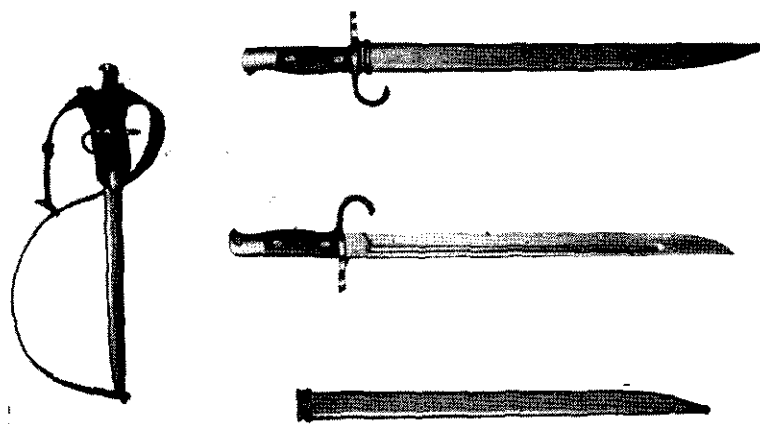
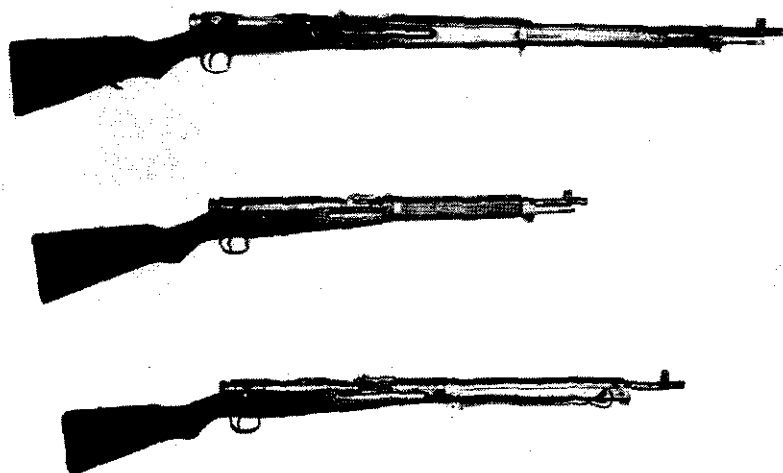

Figure 20.—Model 30 (1897) bayonet and accessories.
Figure 27.—Model 38 (1905) 6.5-mm rifle (top), Model 38 (1905) 6.5-mm carbine (center), and Model 99 (1939) 7.7-mm rifle (bottom),
similar (see fig. 27, p. 41). This carbine, like the rifle, is fitted to take the Model 30 (1897) bayonet (see **g** (1), below, and fig. 20, p. 33).
well to discard the bolt cover. A straight, one-edged bayonet, the Model 30 (1897) (fig. 20), is provided; it locks firmly to the muzzle and upper band in the same manner as the bayonet for the U. S. M1903 (Springfield) rifle. (See also figs. 14, 15, and 19, pp. 25, 26, and 31, respectively.)
In some areas the Model 99 (1939) 7.7-mm rifle (fig. 26) is replacing the Model 38 (1905) 6.5-mm rifle (*Arisaka Sampachi*) (par. 8, p. 25) as the basic Japanese infantry weapon. It is 5 inches shorter and of larger caliber than the Model 38, but otherwise it is identical in construction (see fig. 27). Like the older model, it is fitted to take the Japanese service bayonet (fig. 20, p. 33). (For a long model 7.7-mm rifle, see par. 47, p. 240.)